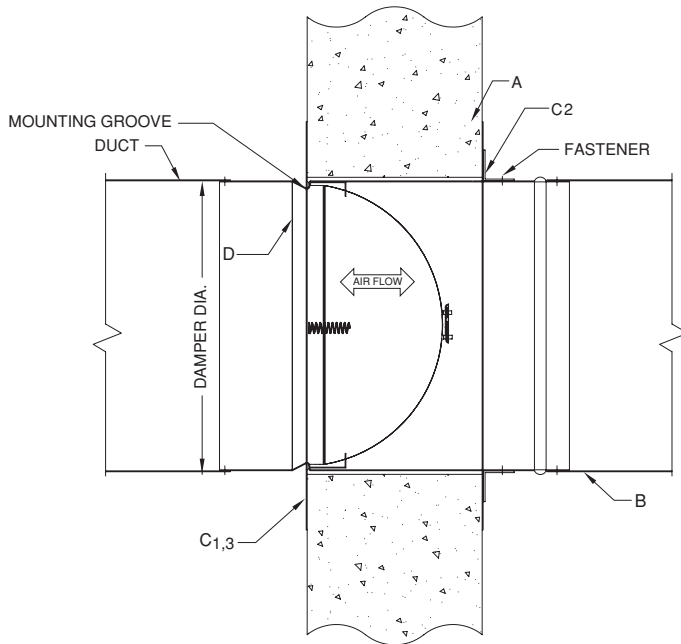
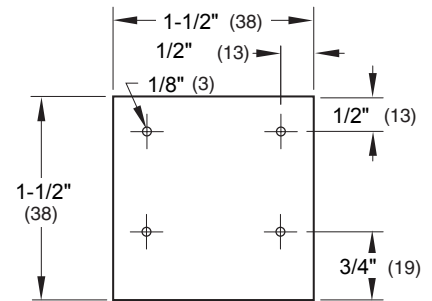
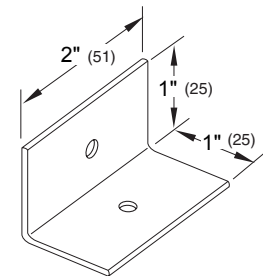

Figure 1
Figure 5
Figure 7
- A.** Concrete or masonry fire partition is shown in figure 1 and 2. The square or round opening shall be a minimum of 1/4" (6) with a maximum of 3/4" (19) larger, but less than 6" (152) the mounting angles must be a minimum of 16 gauge (1.5) and must be tall enough to overlap the opening by a minimum of 1" (25). Damper must be installed with leading edge of closed blade within the partition.
- B.** The connecting duct shall not be continuous, and shall terminate at the sleeve/frame using one or more of commonly used break away style connections. Refer to Sleeve Termination Supplemental Installation Instructions for further details. Damper sleeve shall not extend more than 6" (152) beyond the rated partition unless an access door is installed in the sleeve which then permits the extension to be a maximum of 16" (406).
- C1.** The holding plate mounting groove of damper sleeve must be flush with wall. Seat the holding plate (see figures 3 & 4) into the mounting groove. Then place guide plate (see figures 3 & 4) around the opposite side of damper sleeve and slide forward until it touches partition. Secure both plates with joiner clips (see figure 5) using four 1/8" (3) minimum rivets, #10 (M5) sheet metal screws, bolts or welds per joiner clip. A minimum of 3 clip angles (see figure 7) shall be arranged symmetrically around the damper and fastened to the damper sleeve on the guide plate side of the partition and in contact with the guide plate. Fasteners shall be #10 (M5) screws, bolts, 1/8" (5) rivets or welds.
- C2.** As a further option for round openings either or both plates may be replaced by 1-1/2" x 1-1/2" x 20 gauge (38 x 38 x 1) minimum angle rings. Each ring shall be fastened to the damper sleeve, not the partition, at 8" (3) on center maximum with a minimum of 3 fasteners using #10 (M5) sheet metal screws, bolts, 1/8" (3) diameter rivets or welds.
- D.** On non-integral sleeve units, when fastening the damper to the sleeve, the damper shall be fastened with 3/16" (4.8) diameter steel rivets, Quick-Lock joints, welds or No. 10 (M5) bolts or sheet metal screws at 8" (203) o.c. maximum. A minimum of two connections per assembly.